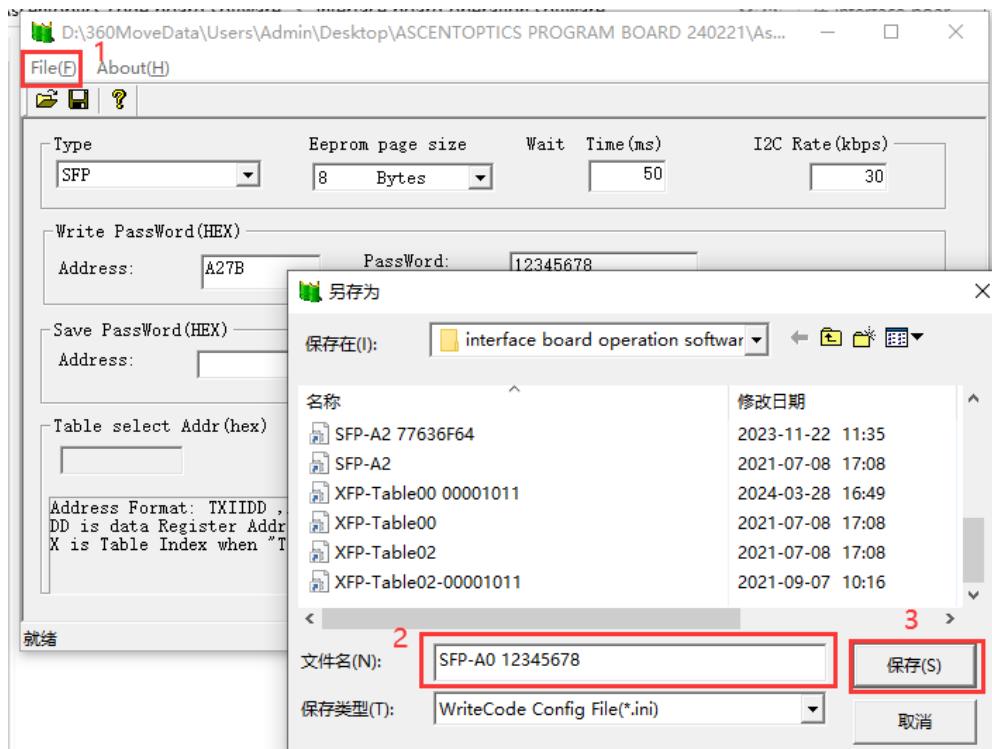

Figure 41
4. Finally Click the File>Save As(A) >Rename>Store (as shown in Figure 41)